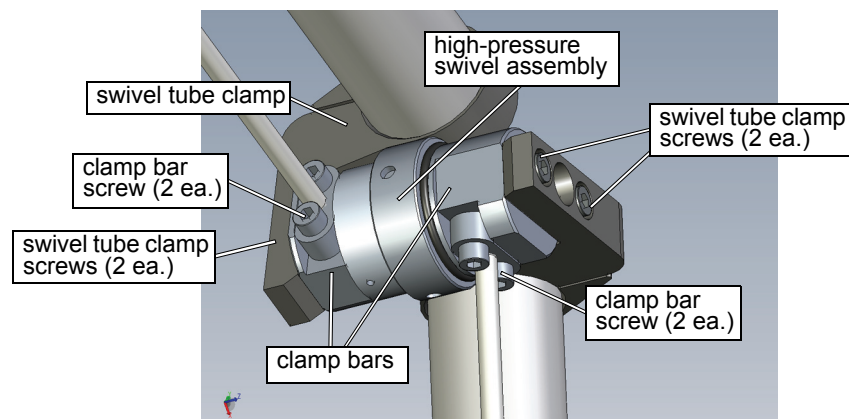

Figure C-2: Typical High Pressure Swivel Installation
Figure C-2 illustrates a typical high-pressure swivel installation.
5. Remove the four screws securing the swivel tube clamps (Figure C-2) and the four clamp bar screws.